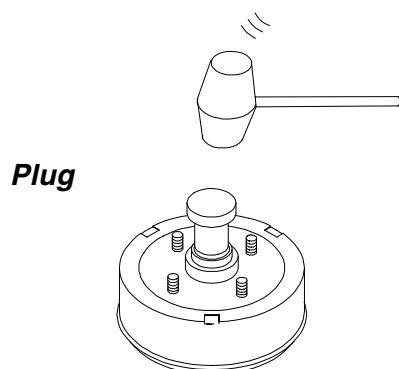

Figure 4.12.4
4. Using a suitable soft plug/jig, tap bearing into hub recess. Ensure that the tapered side of the bearing is facing outwards (See Figure 4-12.4) and bearing is fully located against shoulder in hub.